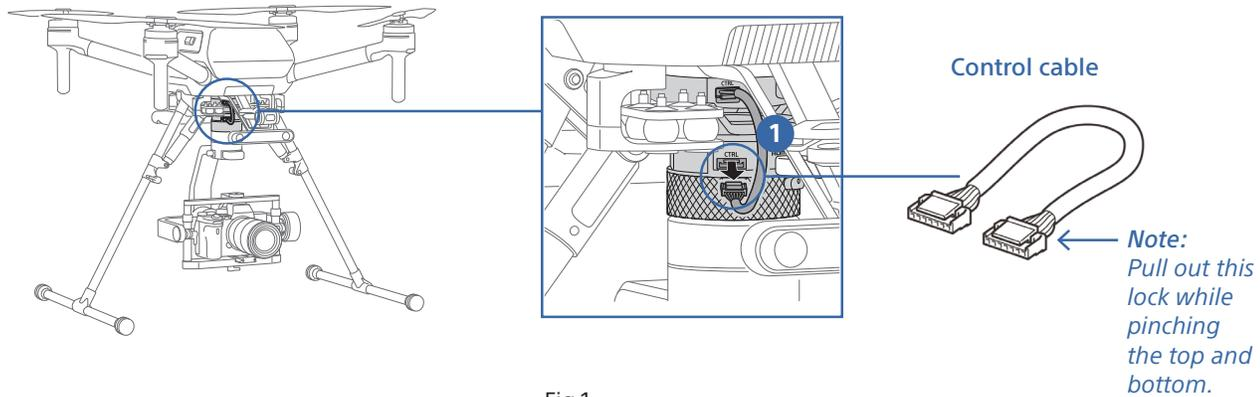

Fig.1
- 1 Control cable needs to be disconnected during the calibration. With the power source of Airpeak turned off, disconnect one side of the control cable. (Fig.1)